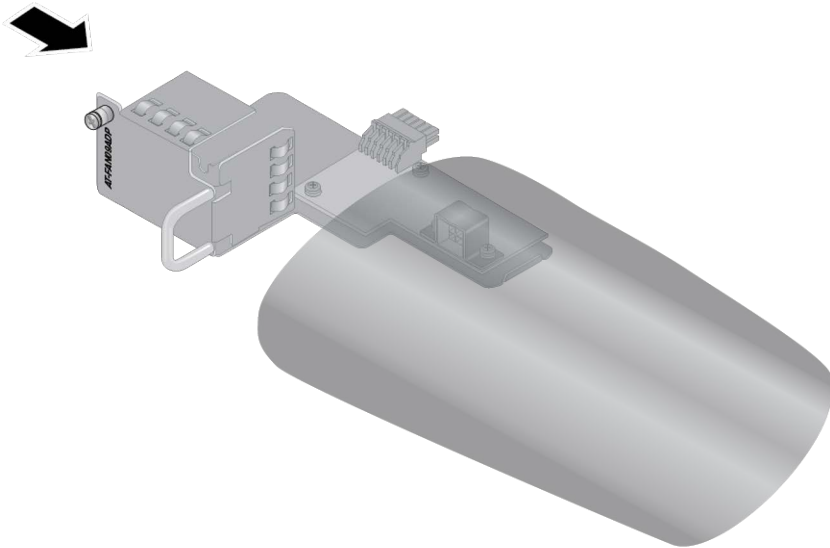

Figure 51. Storing the AT-FAN09ADP Module in an Anti-static Bag
13. Store the AT-FAN09ADP Module in an anti-static bag and place it in a safe location. Refer to Figure 51.